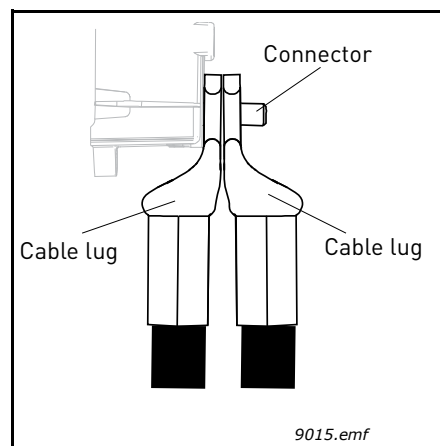

Figure 46. Placing two cable lugs on top of each other
- **NOTE:** If you use several cables on one connector observe the position of cable lugs on top of each other. See Figure 46 below.